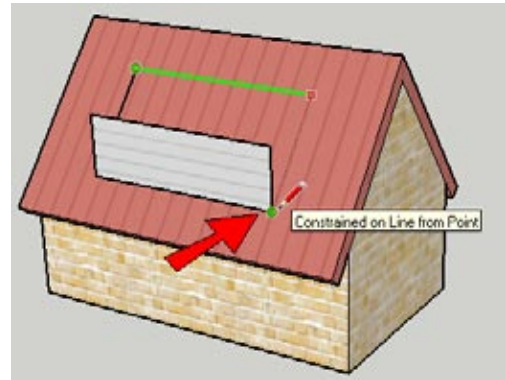

Figure 5-28
6. For the next line, Shift-lock the green (or red) direction and click the lower-right corner (Figure 5-28).